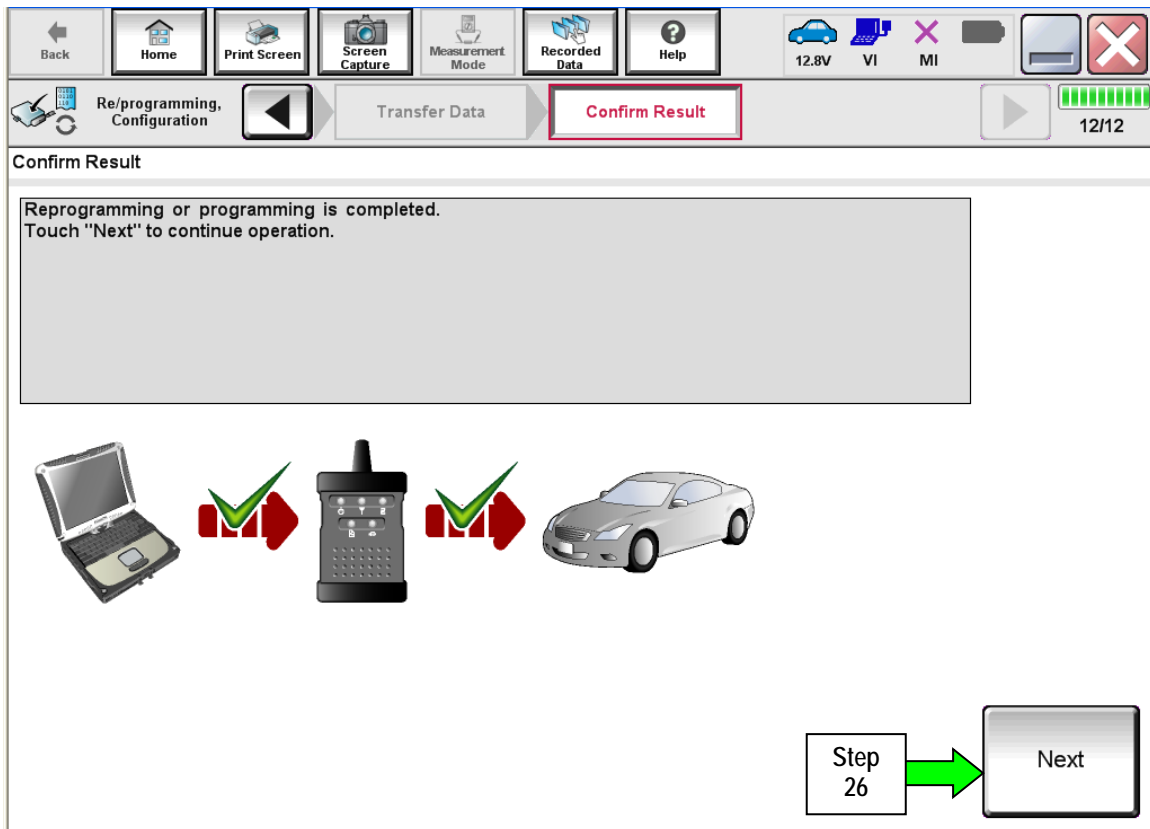

Figure 13
24. When the screen in Figure 13 displays, reprogramming is complete.
NOTE: If the screen in Figure 13 does not display (indicating that reprogramming did not complete), refer to TCM Recovery on the next page.